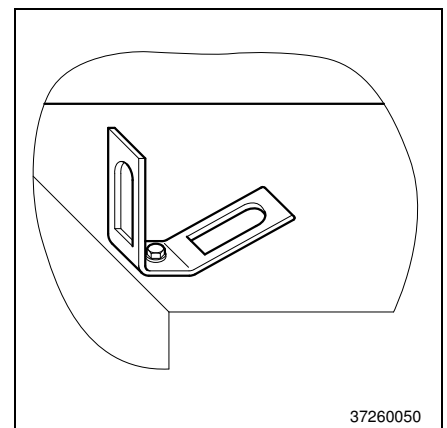

Fig. 21
**3.** Disassemble the transport angles (Fig. 21). Slacken the screws (OW 13) on the transport angles and take them off together with the transport angles.